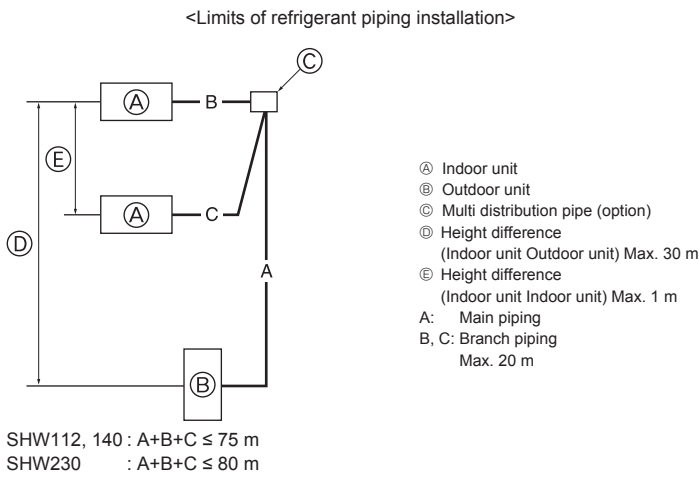

Fig. 4-9
4.7. For twin/triple/quadruple combination (Fig. 4-9) (Only for Air-Conditioners)